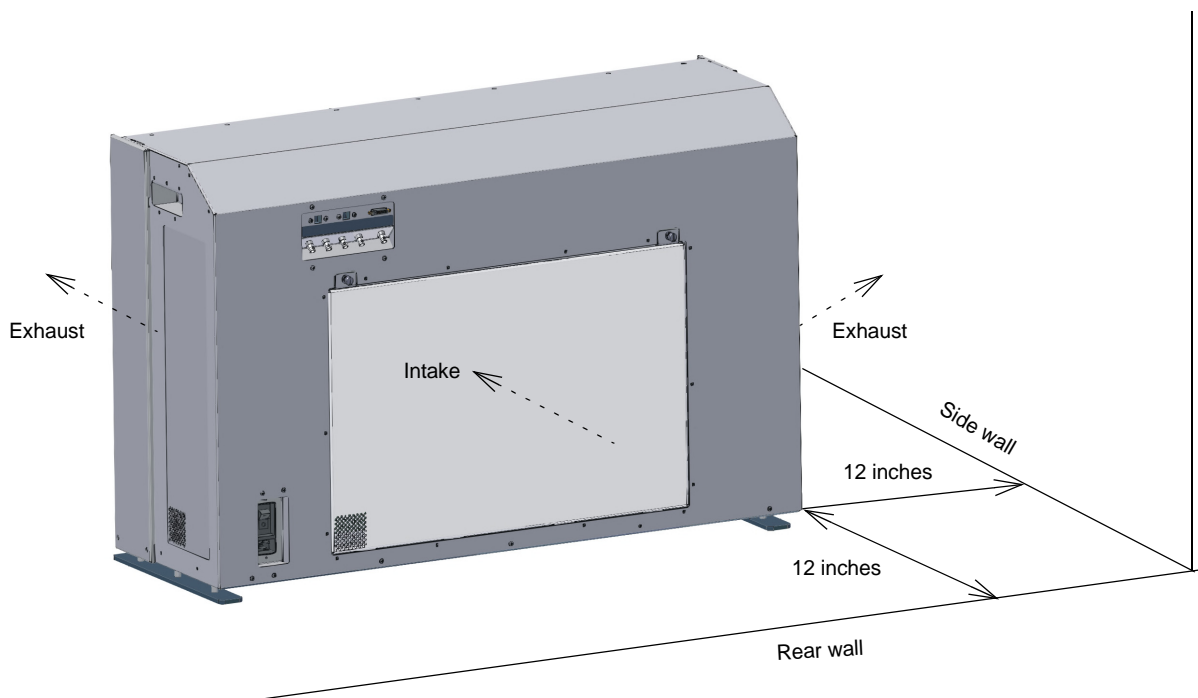

Figure 2-1 PRM-4200 Ventilation Requirements
1. Position the PRM-4200 in a well-ventilated area, at a minimum of 12 inches from a side wall and 12 inches from a rear wall. In addition, if you install the PRM-4200 in any type of enclosure, air should flow into the enclosure at a minimum of 200 cubic feet per minute (CFM) air at 25°C. Be sure that no exhaust air recirculates to the intake on the rear panel (see Figure 2-1).